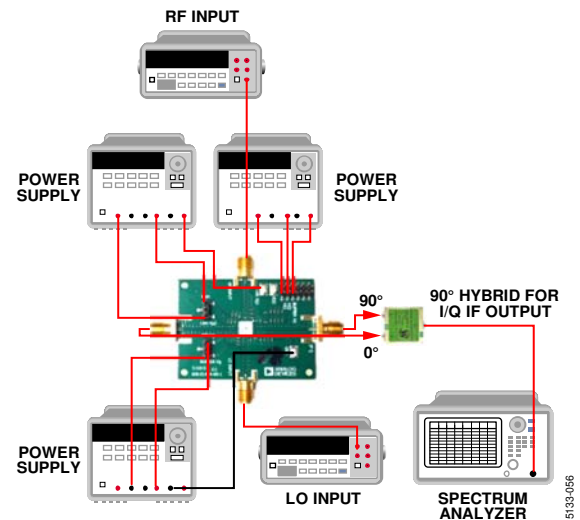

Figure 55. HMC8108 Lab Bench Setup
3. Turn off the LNA_VG1, LNA_VG2, BUFF_VG, MIX_VG, and VCTRL power supplies. Refer to Figure 55 for the HMC8108 lab bench setup.